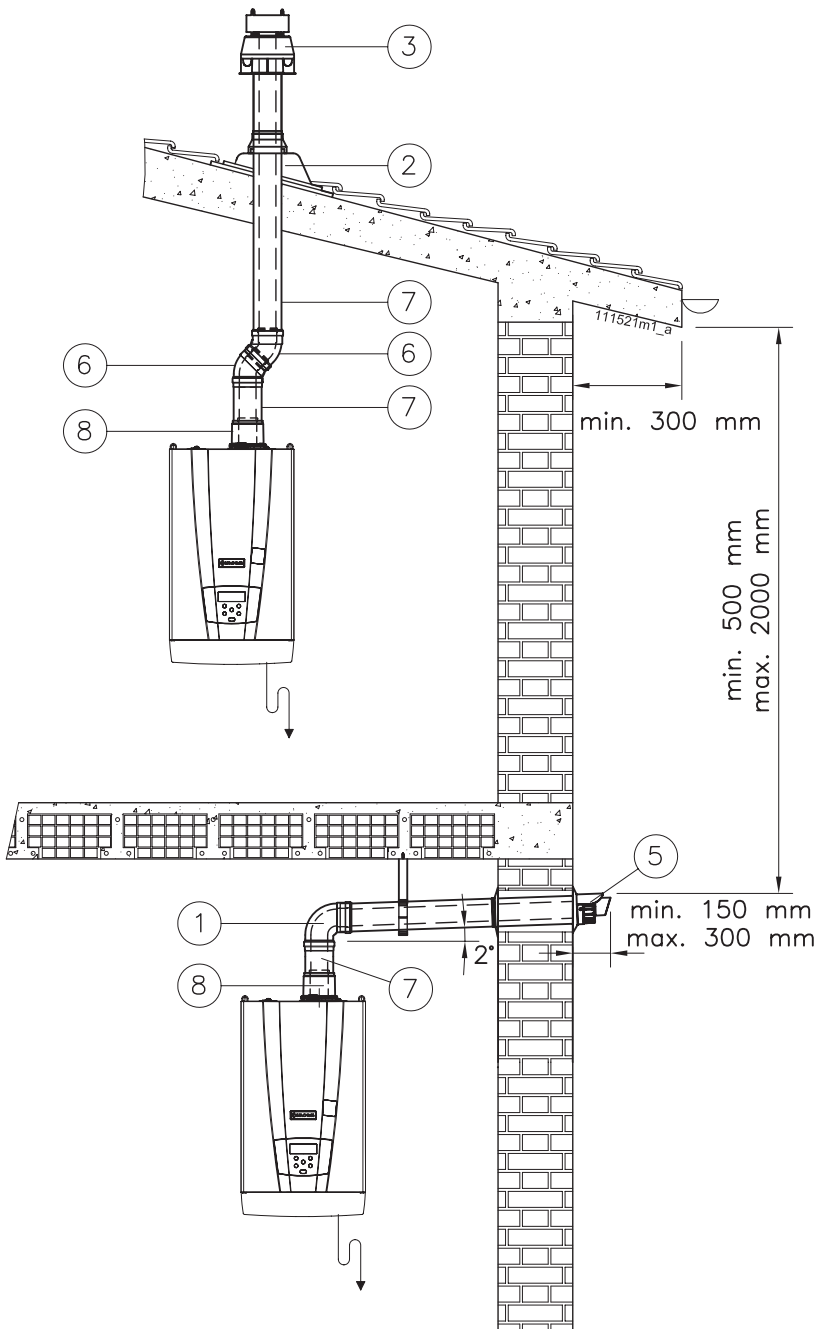

Figure 5-34 - Examples of coaxial pipe installations
**ATTENTION !!!** Once these operations have been performed, check that the exhaust/intake terminal is exposed to the outdoors with the tolerances given in figure 5-34.
When a coaxial exhaust is made (see figure 5-34), both vertical and horizontal, the exhaust pipe slope upwards in a way to make the condensate flow into the appliance.
**ATTENTION !!!** The horizontal terminal must be protected against the accidental return of rain water. To do this, gables must be installed (or projections or balconies or relevant protections ) with the minimum dimensions given in figure 5-34.